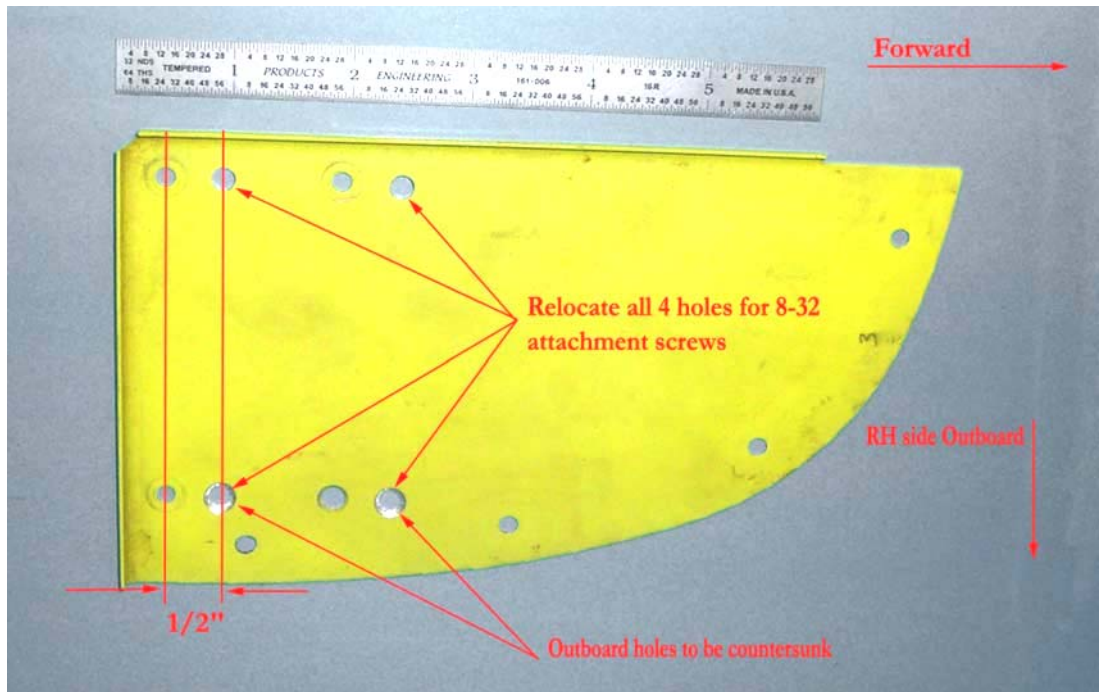

Figure 2 – Differential Pressure Switch Backing Plate
- (b) Remove the differential pressure switch from the backing plate and relocate the mounting holes $\frac{1}{2}$ " forward in accordance with figure 2.